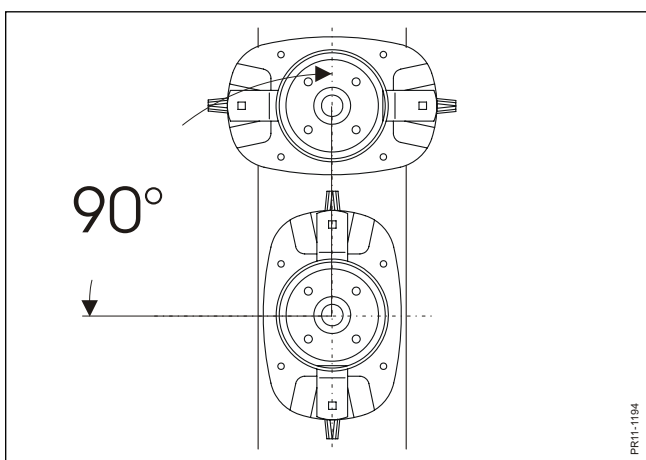

Fig. 5-11
- Fig. 5-11** If discs have been dismantled they must be mounted again staggered 90° in relation to each other.